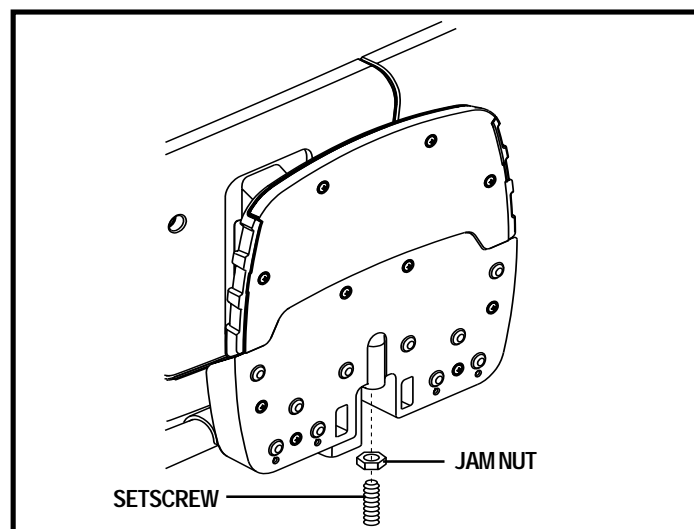

Figure 23. Underside of Foot Platform
1. Flip up the foot platform and locate the setscrew and jam nut. See figure 23.